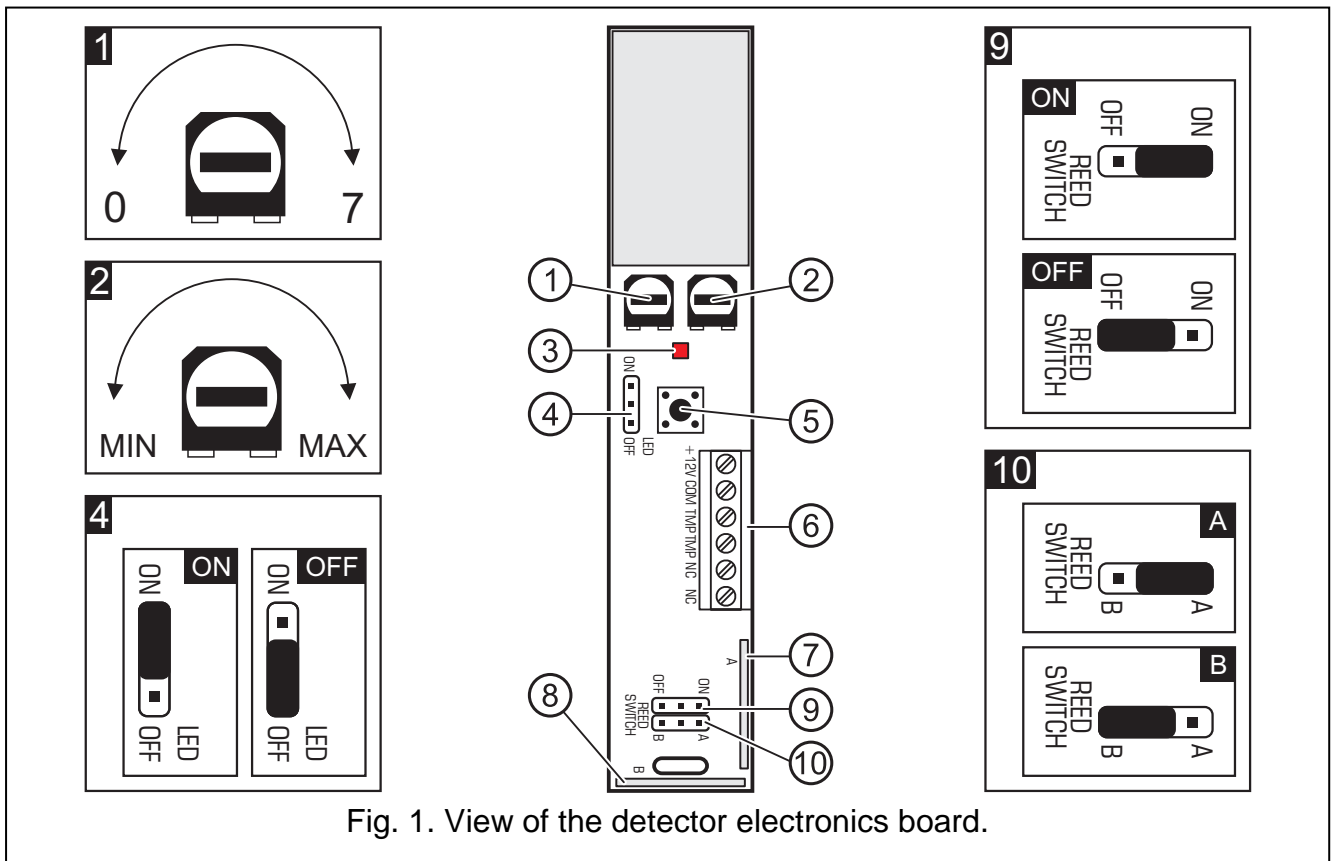

Fig. 1. View of the detector electronics board.
Explanations for Figure 1:
2. Define the operating parameters of the vibration detector (using potentiometers indicated in Figure 1 by numbers 1 and 2) and magnetic contact (using pins indicated in Figure 1 by numbers 9 and 10).